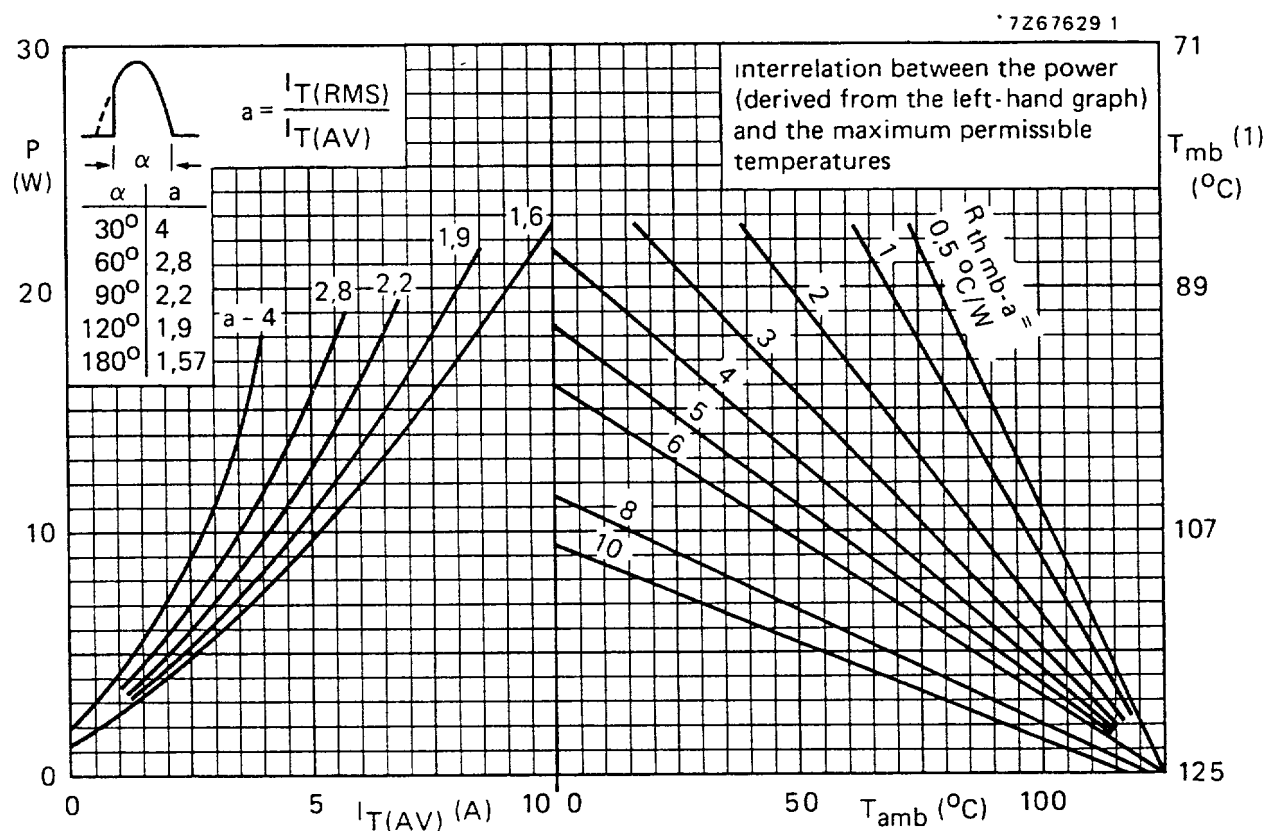

Fig. 3 (1) T_{mb}-scale is for comparison purposes only and is correct only for $R_{th\ mb-a} \leq 6$ °C/W.
* To ensure thermal stability: $R_{th j-a} < 4$ °C/W (d.c. blocking) or < 8 °C/W (a.c.). For smaller heat-sinks $T_{j max}$ should be derated. For a.c. see Fig. 3.